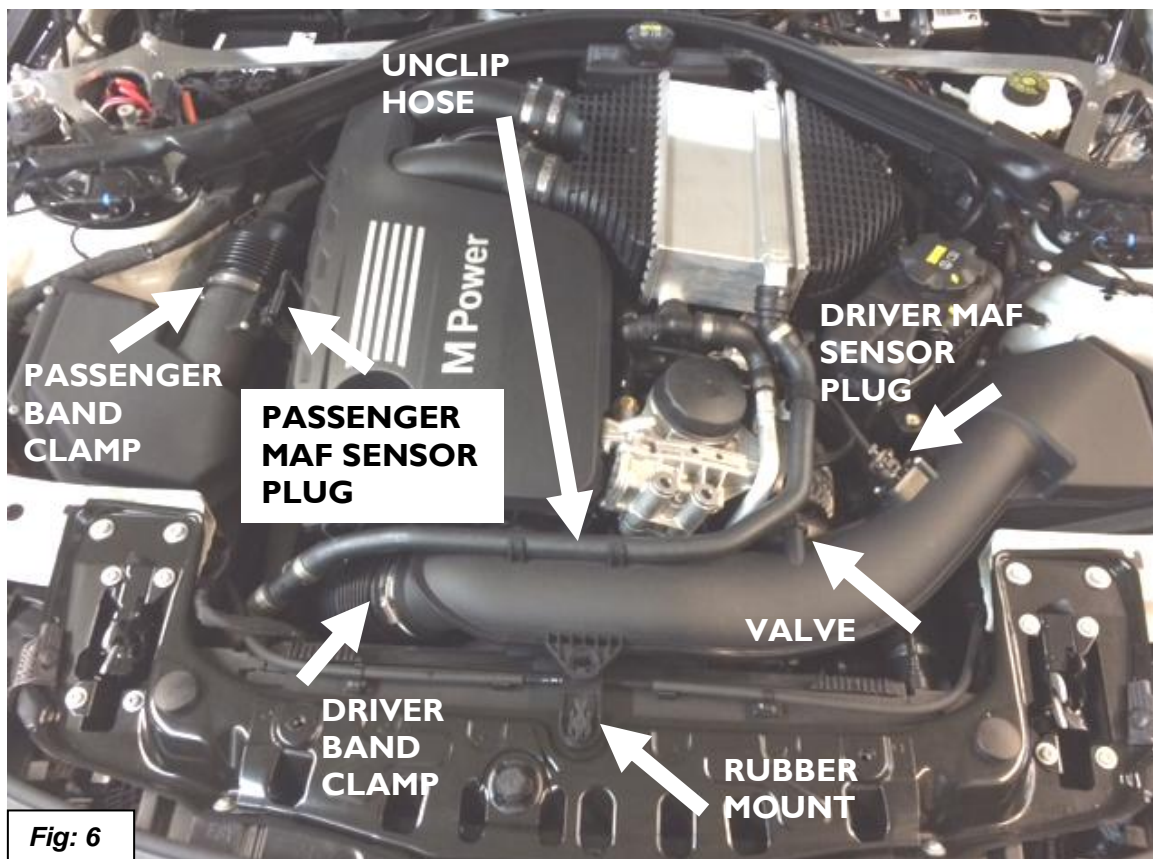

Fig: 6
5. Loosen both band clamps and gently remove MAF sensor plugs. Unclip hose from driver side intake tube. Carefully remove the fuel tank breather valve on driver side intake tube. Some cars do not have this valve. Release driver side intake tube from rubber mount. See Figure 6.